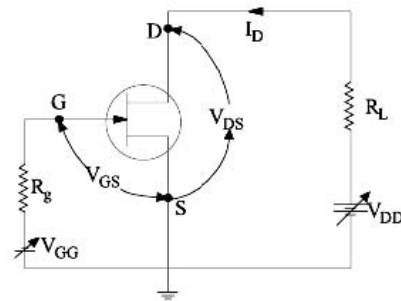

Fig. 2
- b) **Transfer characteristic:** It gives relation between  $I_D$  and  $V_{GS}$  for different values of  $V_{DS}$ . We will analyse these characteristics for an N-channel JFET connected in the common-source mode as shown in Fig. 2. We will first consider the drain characteristic when  $V_{GS} = 0$  and then when  $V_{GS}$  has any negative value upto  $V_{GS(off)}$ .